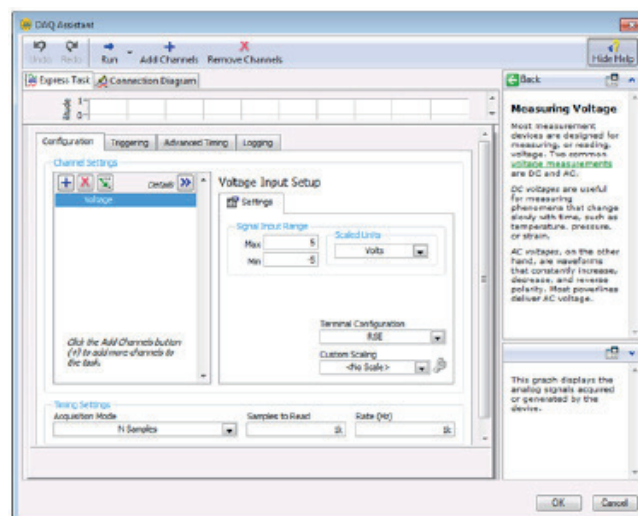

Figure-4
- 7) Double click on DAQ Assistant icon and make the relevant settings on the window as shown in Figure-4.